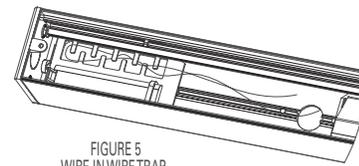

FIGURE 5
8. If the fixture is to be wall mounted, first, loosen the set screw on the back of the pivot housing. Then remove the locking clip by sliding it to the end of the pivot housing (See Figure 5). Rotate the pivot housing 90 degrees, and then replace the locking clip. Tighten the set screw.